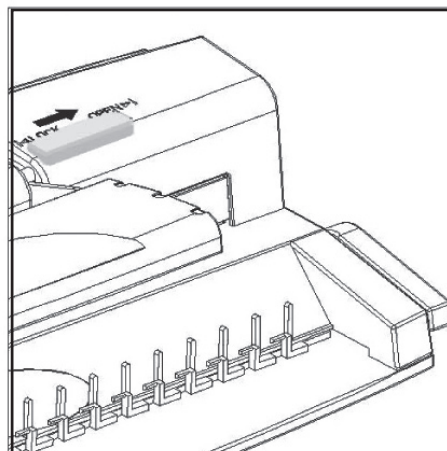

Figure 2
- Press down the punching plate, and then move „lock button“ towards right end (see figure 2).